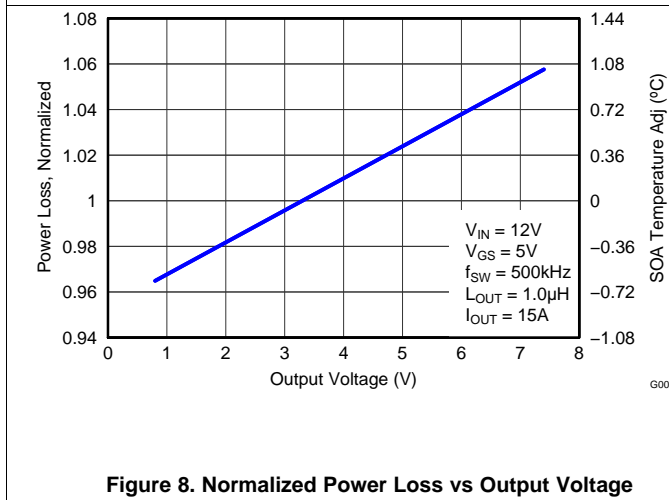

Figure 8. Normalized Power Loss vs Output Voltage
- Normalized power loss for output voltage ≈ 0.96 (Figure 8)
- SOA adjustment for output voltage ≈ -0.2°C (Figure 8)